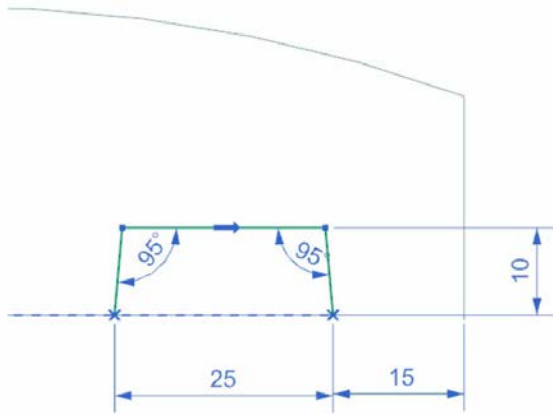

Figure 11-95 Open sketch created
- Create the basic structure of the handle of the hair dryer cover by creating a through curve surface between two open sections, refer to Figures 11-95 through 11-98.
3. Create an open sketch, as shown in Figure 11-95, and exit the Sketch in Task environment.